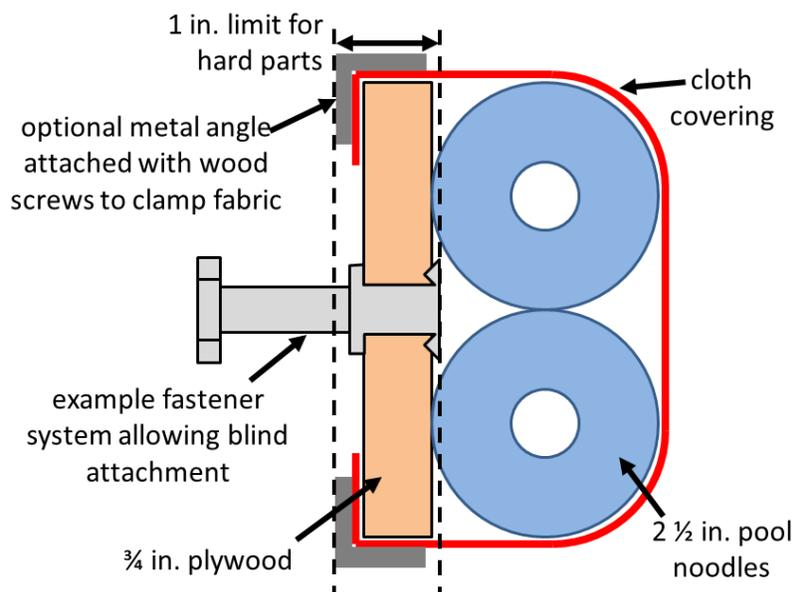
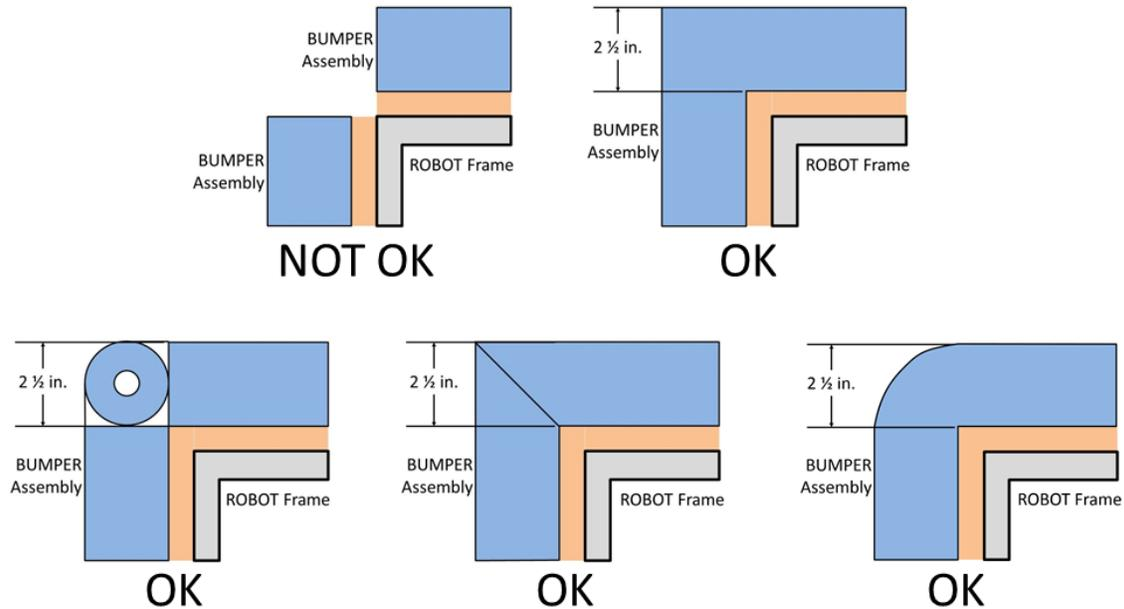

Figure 9-6 BUMPER Vertical Cross Section
Figure 9-7 Soft Parts of BUMPER Corners
- R24.** BUMPERS must be constructed as follows (see Figure 9-6):
- C. use a stacked pair of approximately 2½ in. (nominal, ~63mm) round, petal, or hex “pool noodles” (solid or hollow) as the BUMPER cushion material (see Figure 9-6). All pool noodles used in a BUMPER set (e.g. Red set of BUMPERS) may not be modified (with the exception of cutting to length or cutting to facilitate mating pool noodles at the corners as required by R25) or deformed and must be the same diameter, cross-section, and density (e.g. all round hollow or all hex solid). Cushion material may extend up to 2½ in. (~63 mm) beyond the end of the plywood (see Figure 9-7). To assist in applying the fabric covering, soft fasteners may be used to attach the pool noodles to the wood backing, so long as the cross section in Figure 9-6 is not significantly altered (e.g. tape compressing the pool noodles).
- D. be covered with a rugged, smooth cloth. (multiple layers of cloth and seams are permitted if needed to accommodate R21 and/or R22, provided the cross section in Figure 9-6 is not significantly altered).
- E. optionally use metal angle, as shown in Figure 9-6 or other fasteners (e.g. staples, screws, adhesives, etc.) to clamp cloth.
R25. Corner joints between BUMPERS must be filled with pool noodle material. Examples of implementation are shown in Figure 9-7.